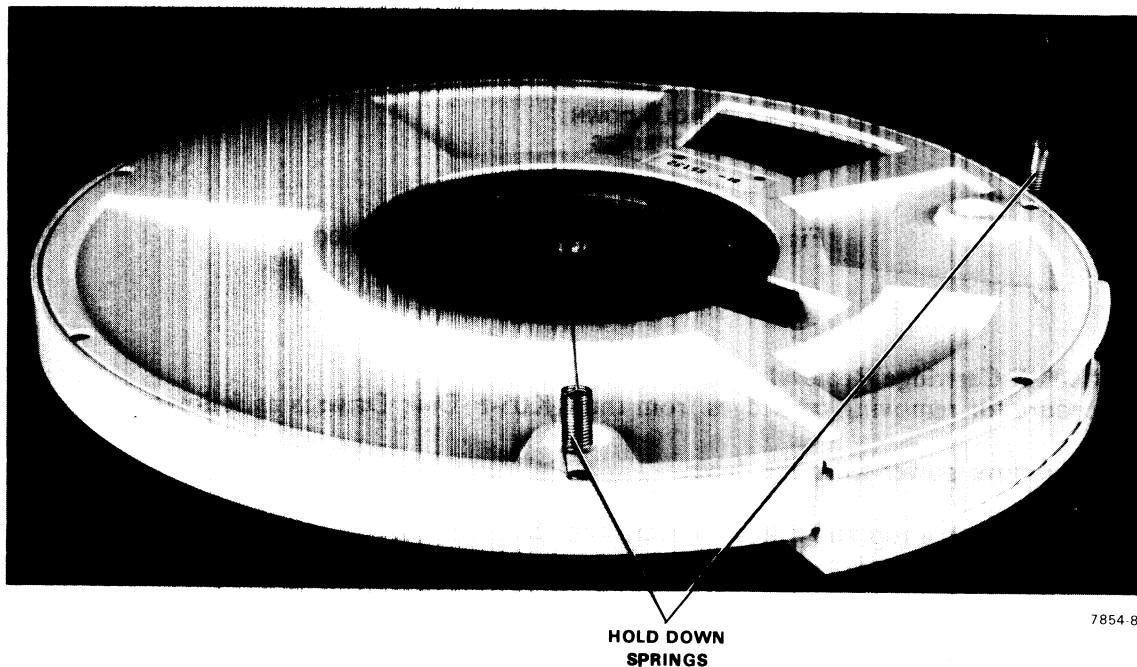

Figure 2-5 RK05-F Cartridge
3. Attach springs to the cartridge, using screws already in the cartridge (Figure 2-5). Point the hooks of the springs toward the cartridge access door. Restart screws by rotating them backward (counterclockwise) until the lead threads pass each other and the screw drops into the hole in the cartridge body with an audible click; the screws then should drive easily in the normal (clockwise) direction.